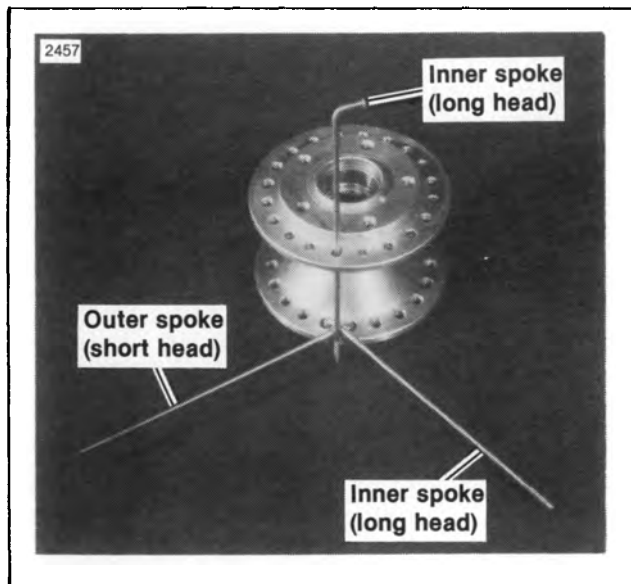

Figure 2-16. Lacing Wheel — 19 in.
2. See Figure 2-16. Place hub on bench either side up. Insert one outer spoke (short-head) into any bottom flange hole and swing it clockwise. Insert an inner spoke (long-head) in the next hole to the left of the outer spoke. Swing the inner spoke counterclockwise over the outer spoke.
3. See Figure 2-16. Insert an inner spoke into the hole on the top flange that directly bisects the two spokes in the bottom flange. Insert all remaining spokes in both hub flanges alternating the inner and outer spokes.